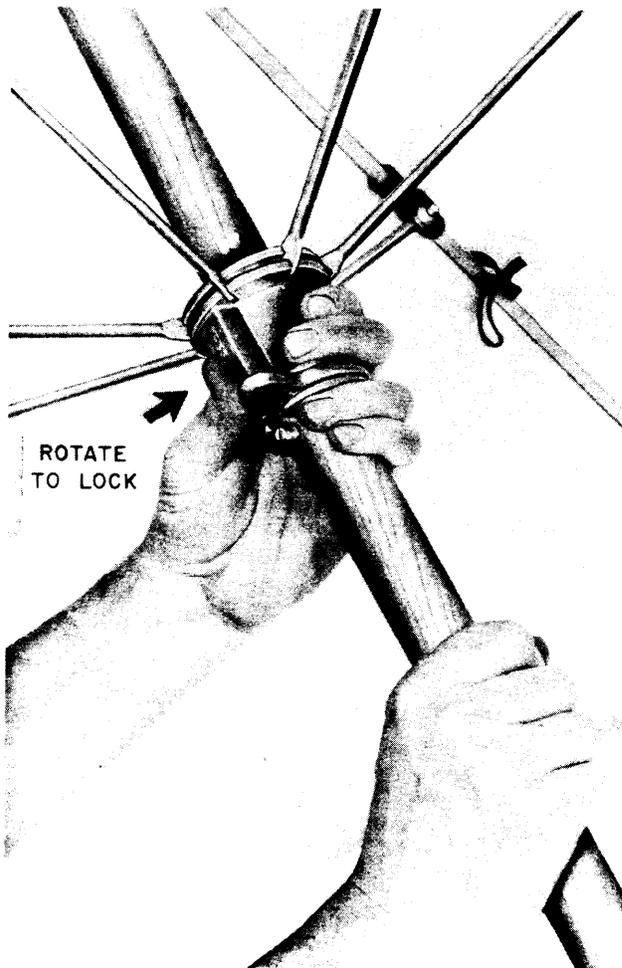

Fig. 2—Locking Open Umbrella
4.01 Locking the umbrella in the open position is illustrated in Fig. 2. Attaching a small tree pruner extension section is illustrated in Fig. 3. If the section is too long, cut off to desired length.